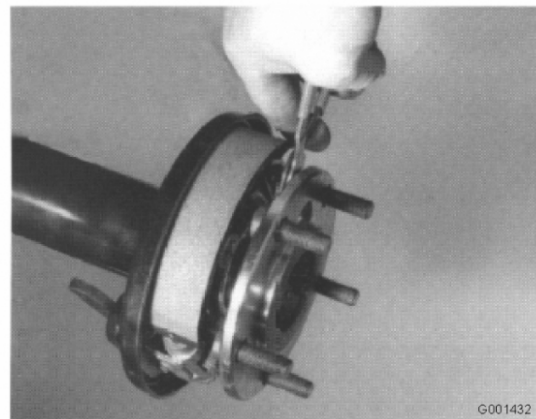

Figure 15
2. Install the snap ring, removed previously (Figure 15).